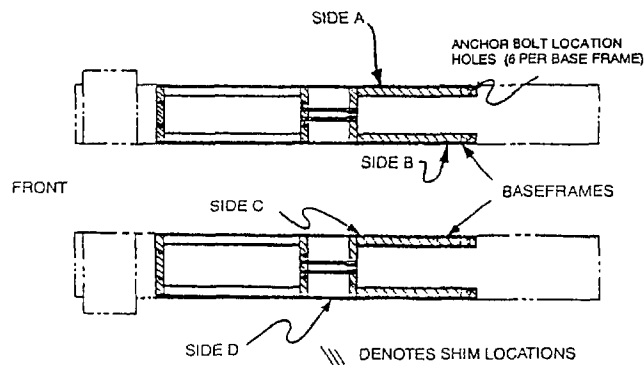

Figure 6: Leveling Procedure Example
1. The highest point on the floor, noted from Section 4.1 step 6 is the point from which the base frame will be leveled from. A quick check using a four (4) foot level across the base frame should again verify that this is the highest point.
2. Starting at the corner closest to the highest point, check along the length of the base frame edge with the four foot level and shim as required. **NOTE THE FIVE CRITICAL POSITIONS THAT SHIMS MUST BE PLACED ON EACH BASE FRAME OF EACH MAIN FRAME ASSEMBLY.** Refer to **Figure 6**.
LEVELING EXAMPLE: FIGURE 6